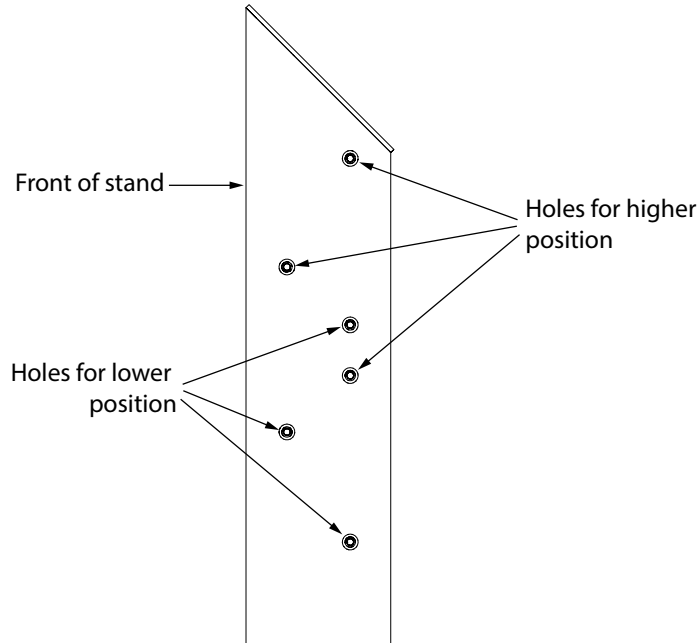

Figure 4. Holes for mounting backplate
2. Reposition the backplate to the 3 holes for the higher position shown in figures 4 and 5.